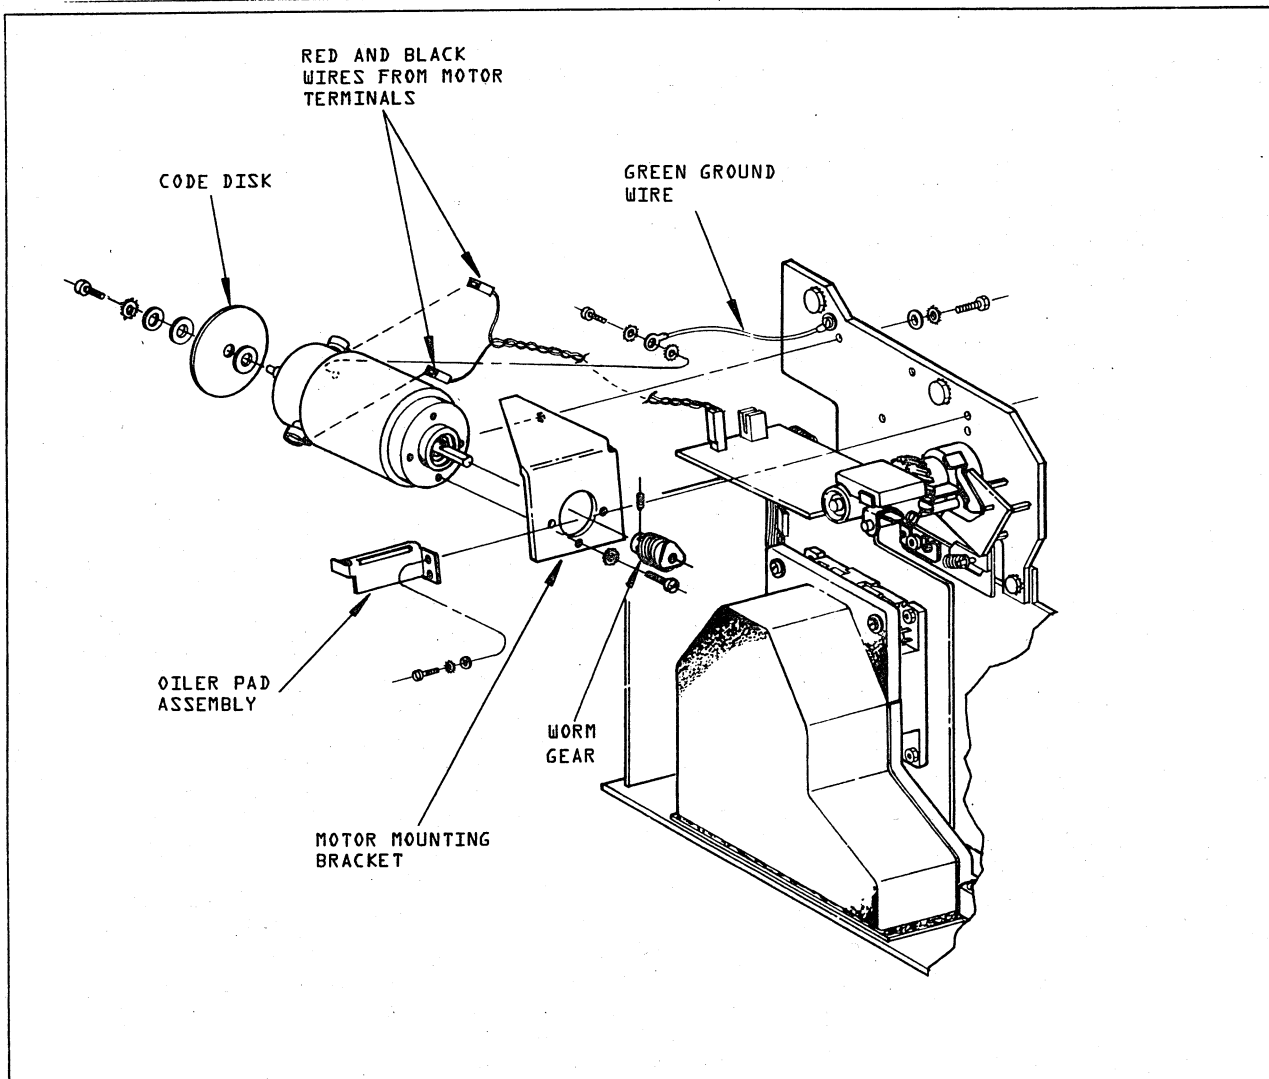

FIGURE 8-8. VERTICAL SERVO MOTOR REPLACEMENT
- Removal (Figure 8-8)
Installation (Figure 8-8)